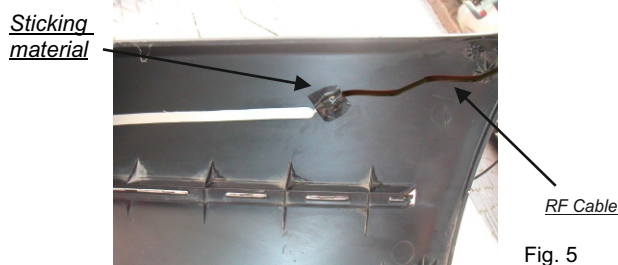

Fig. 5
- Connect the RF Cable coming from the ECU to the antenna sensor. Apply a piece of sticking material on the connection and fix it on the bumper by a strong pressure (If the ambient temperature is below 10 °C we recommend heating both the mastic and the sticking area on the bumper). It is necessary to use the same material to fix the opposite extremity of the antenna. (Fig. 5).